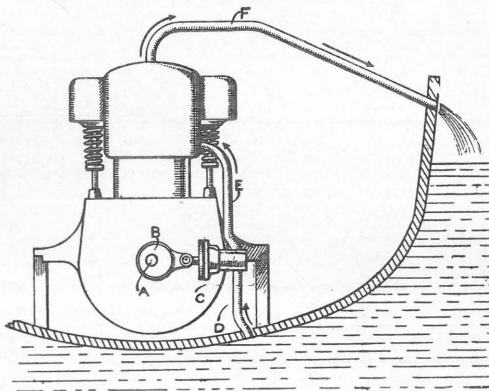

Fig. 2.—Arrangement of pump and water piping in a boat.
It is not enough simply to fill the jacket space with water, the supply would soon boil away, so an inlet and an outlet pipe are provided and sea water is pumped through the jacket as shown in Fig. 2. Here we have a section of a boat with an engine fitted. On the crankshaft (A) is a small eccentric (B) driving an ordinary plunger pump (C). This takes in water through a pipe (D) led through the bottom of the boat, and delivers it to the cylinder jacket through the pipe (E). The water circulates through the jacket and leaves through the pipe (F) as shown, being taken overboard either above or below the water-line. It will be found that the water as it leaves the cylinders is hot; usually the pipe is quite as hot as is comfortable to hold in the hand.